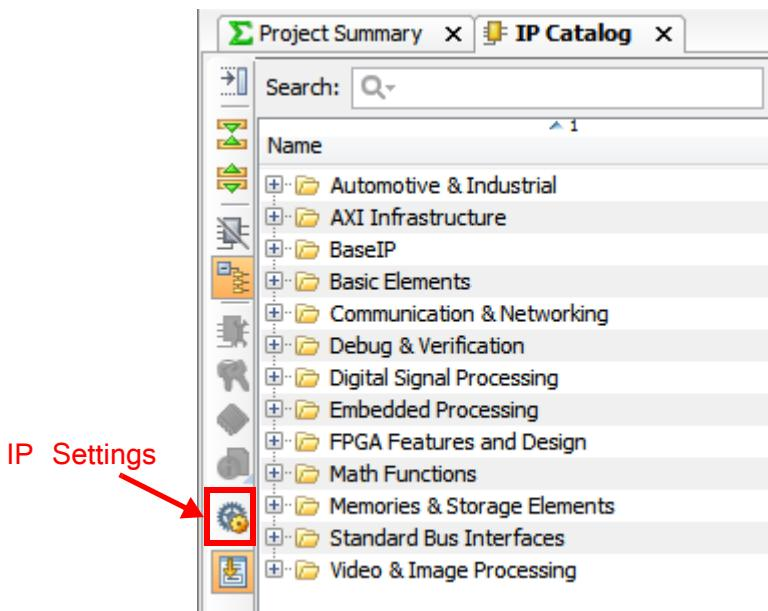

Figure 5.1: Vivado IP Catalog
The **IP Catalog** will open in the *Workspace*, as seen in Figure 5.1.
- (g) In the Vivado IP Catalog tab, click the **IP Settings** button, , as highlighted in Figure 5.1.